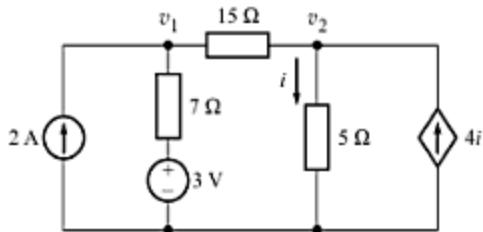

Fig. A-121
- A-88. Use superposition principle to obtain the voltage across each current source in the circuit of Fig. A-121. [Ans. $v_1 = 11.147\text{ V}$; $v_2 = -1.394\text{ V}$]